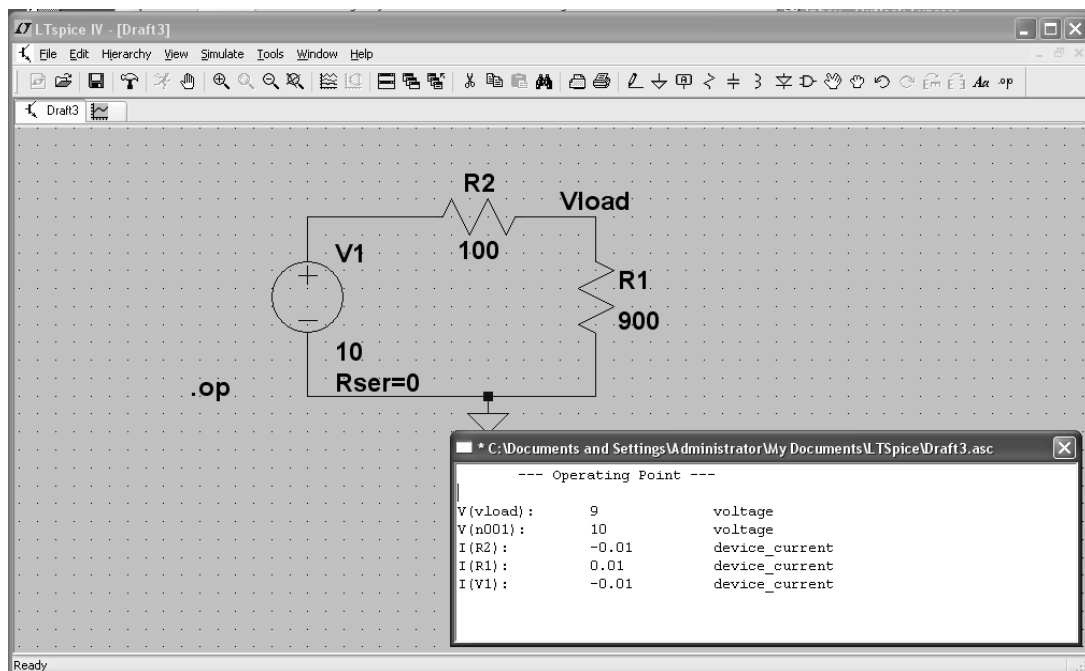

Fig. 4 LTspice window after step 7
7. Now click **Simulate, Run**, or use the top toolbar shortcut . Following this you will see a window appear containing the results of the simulation. If all is well, your screen should now look something like Fig. 4 below.